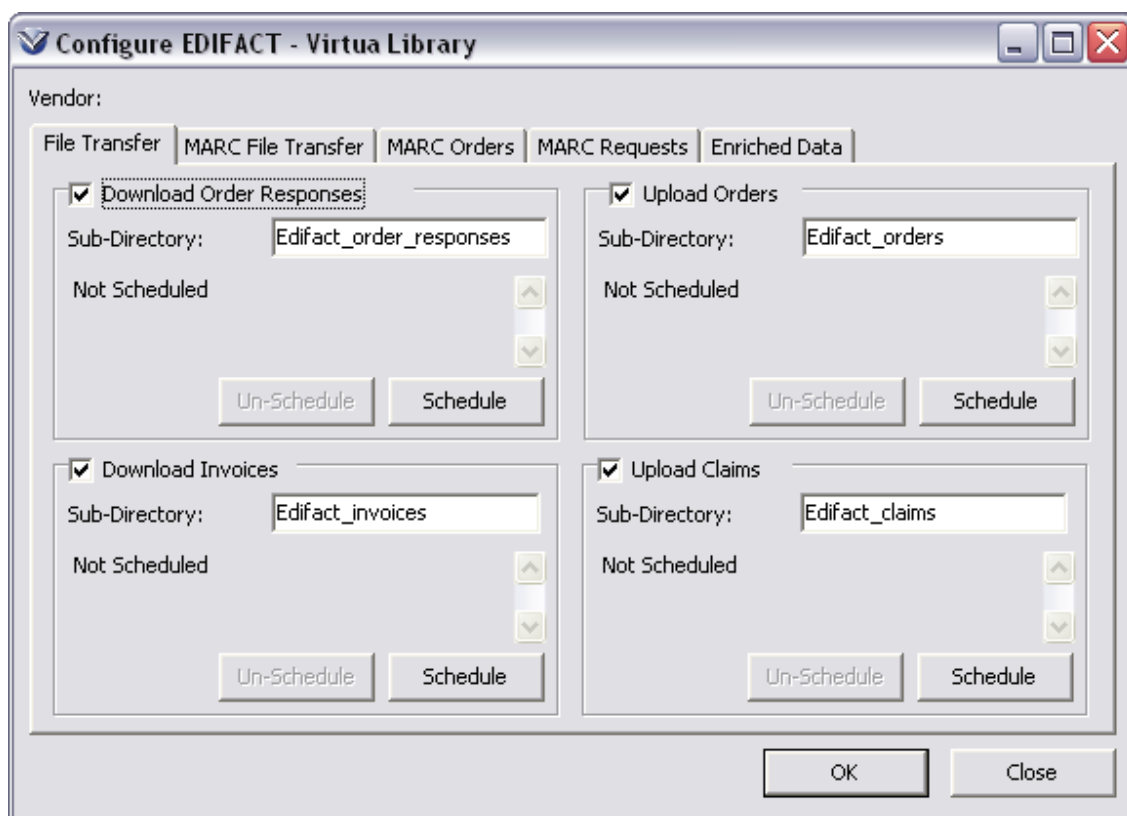

Figure 9-2. Configure EDIFACT Window - File Transfer Tab
1. On the Configure EDIFACT window, click the File Transfer tab (*Figure 9-2*).